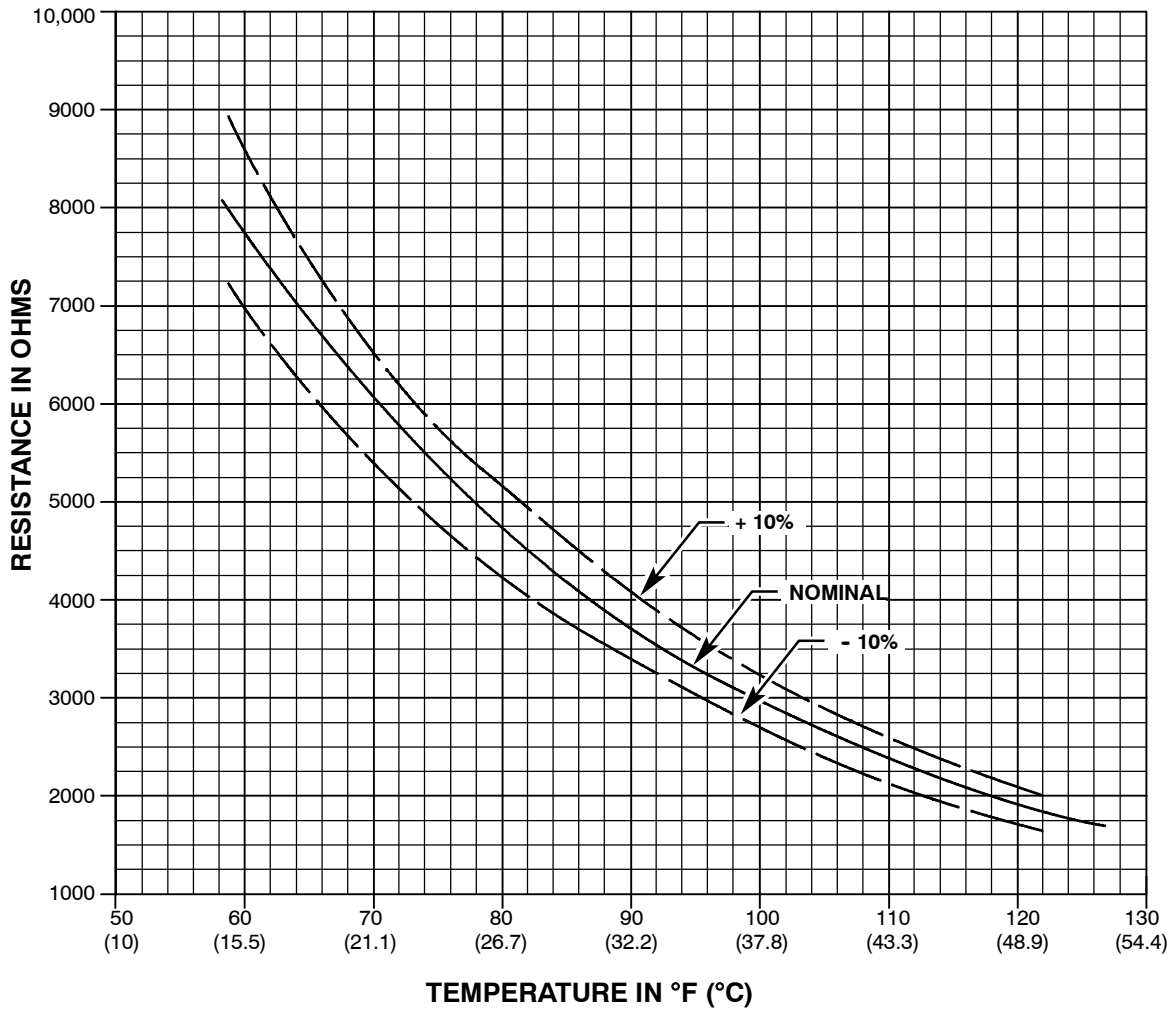

Fig. 13- Sensor Resistance/Temperature Chart
- c. Check sensor resistance with an ohmmeter and compare resistance/temperature readings to those in Fig. 13.
- d. If sensor is within tolerance shown in Fig. 13, replace MotorMaster®. If sensor is NOT within tolerance shown in Fig. 13, replace sensor.